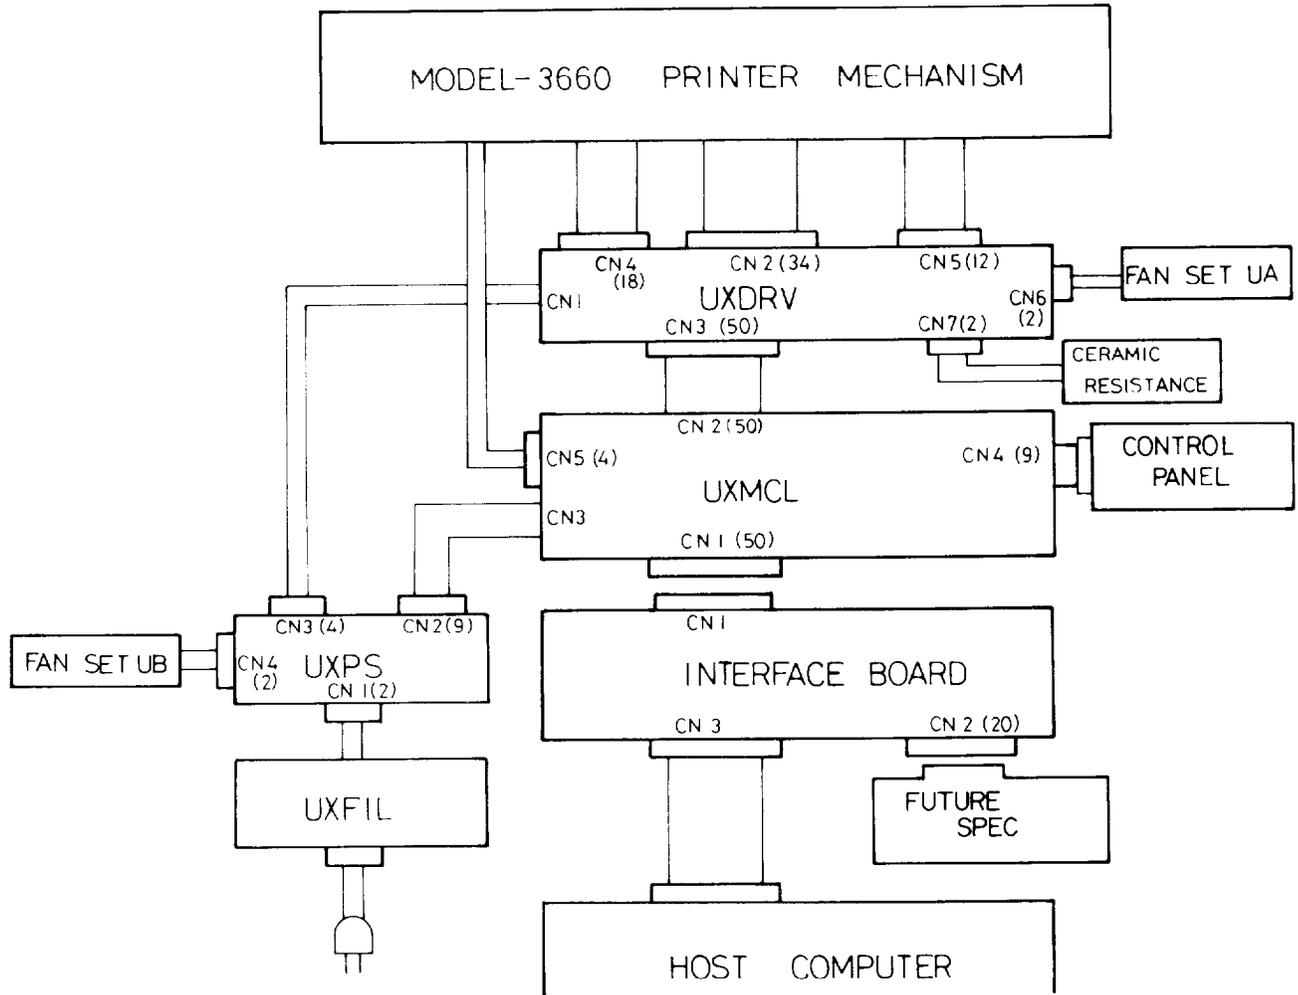

Fig. 2.1 Connection diagram
2.2 Connection Diagram (Fig. 2.1)